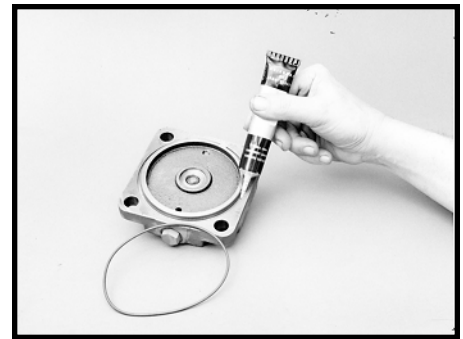

Figure 119
16. Apply clean grease to the end cover seal ring groove on the end cover (37). Install the new end cover seal ring (9) into the end cover seal ring groove. SEE FIGURE 119.